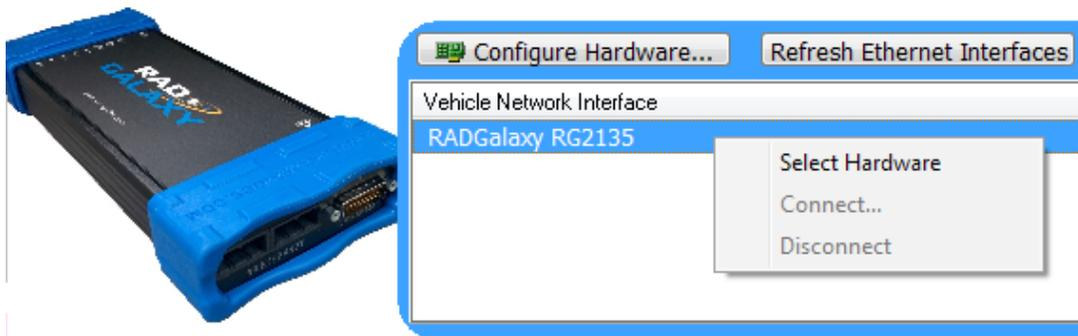

Figure 70: Selecting the RAD-Galaxy from the Logon Screen of Vehicle Spy.
2. **Select the RAD-Galaxy:** On the *Logon Screen*, select the RAD-Galaxy if it does not already have a checkmark next to it. To do so, right-click the device name and choose *Select Hardware* (Figure 70).